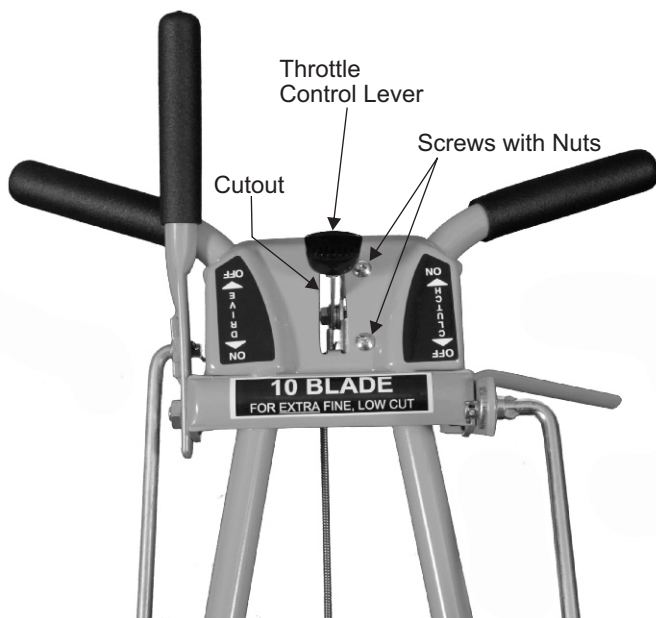

FIGURE 5: Twist the throttle control lever so the knob can pass through the cutout in the panel and attach with Screws and nuts provided.
- B. Hold the control lever at the end of the throttle cable and twist it slightly so the knob can pass through the cutout in the upper handle control panel (see figure 5).